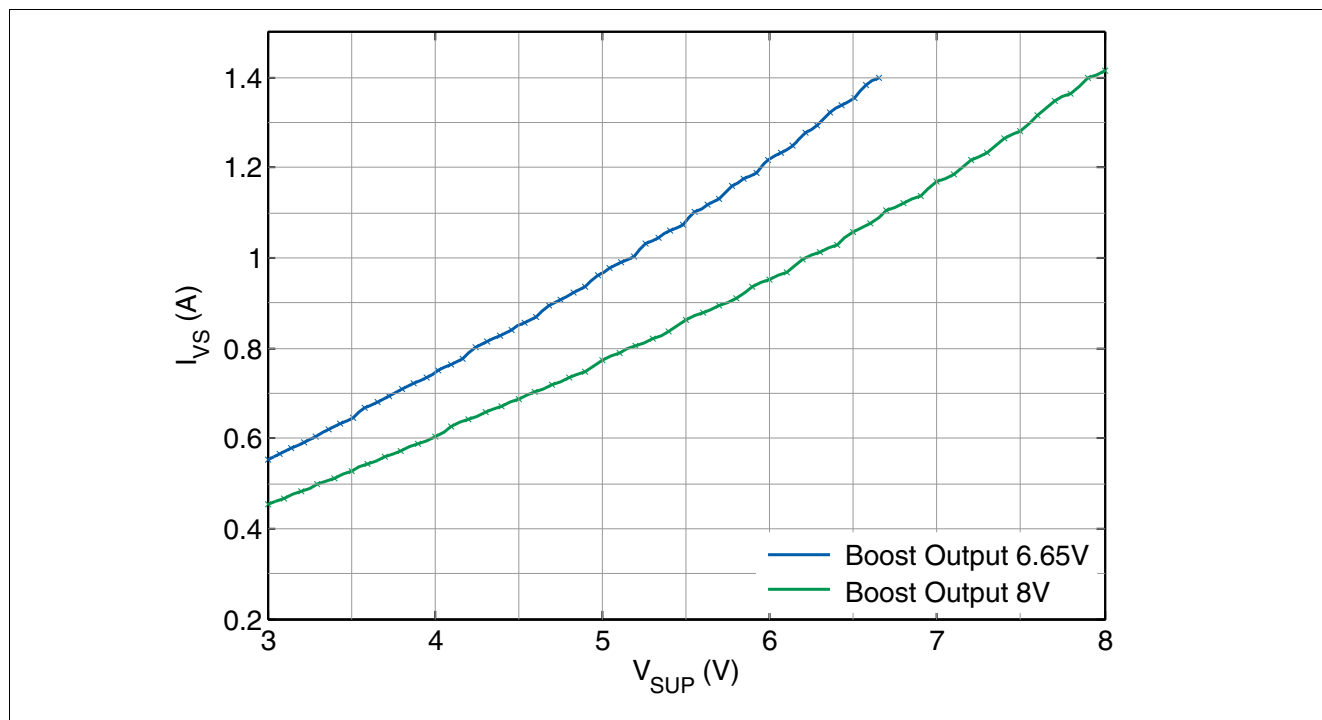

Figure 14 Maximum DCDC boost current capability versus VSUP.
- 3) Values verified in characterization with boost converter specified in Chapter 15.1. Not subject to production test; specified by design. Refer to Figure 14 for additional information.
Note: **Figure 14** is based on simulation results (specified by design), with boost converter external components specified in **Chapter 15.1**.